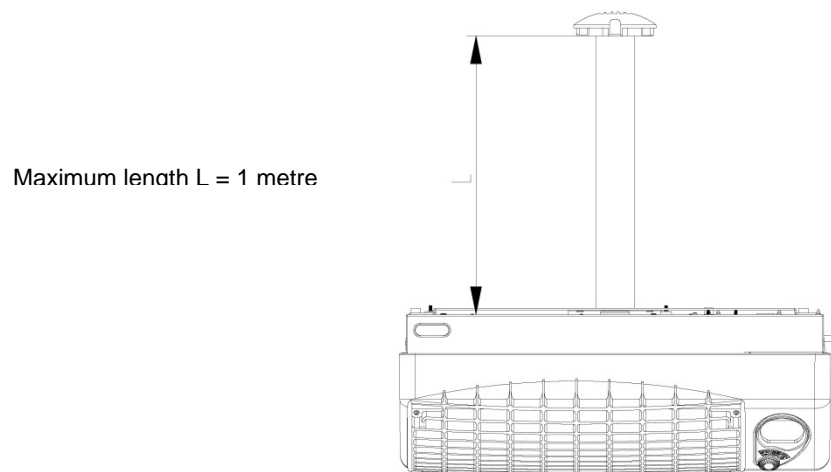

Figure 3 - Installation with coaxial pipes
- With coaxial pipes with outlet through the installation wall (max. pipe length: 1 metre) (see Figure 3).